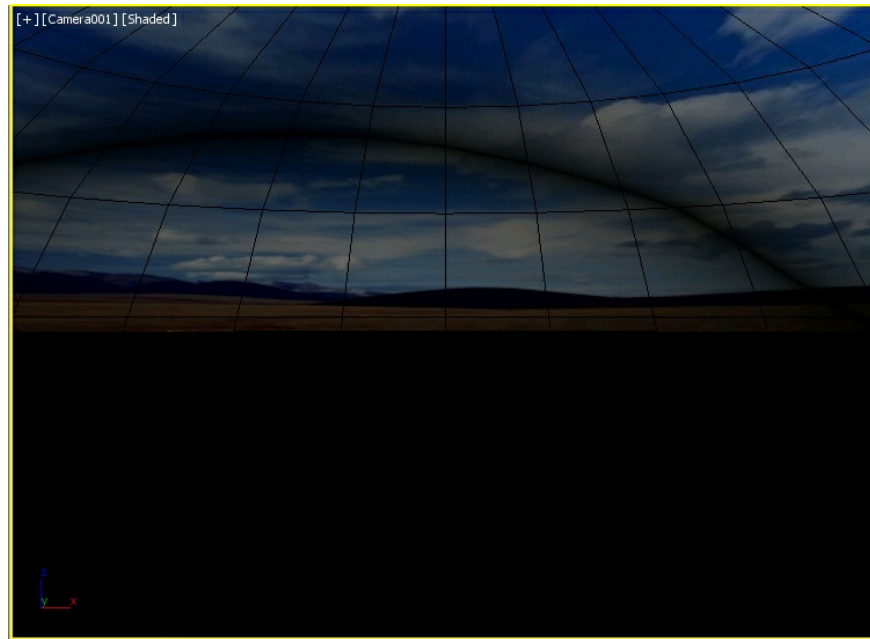

Figure 13-59 The c13_tut1_start.max file
1. Choose **Open** from the **Application** menu; the **Open File** dialog box is displayed. In this dialog box, browse to the location `\Documents\c13_3dsmax_2016_tut` and select the **c13_tut1_start.max** file from it. Choose the **Open** button to open the file, refer to Figure 13-59.